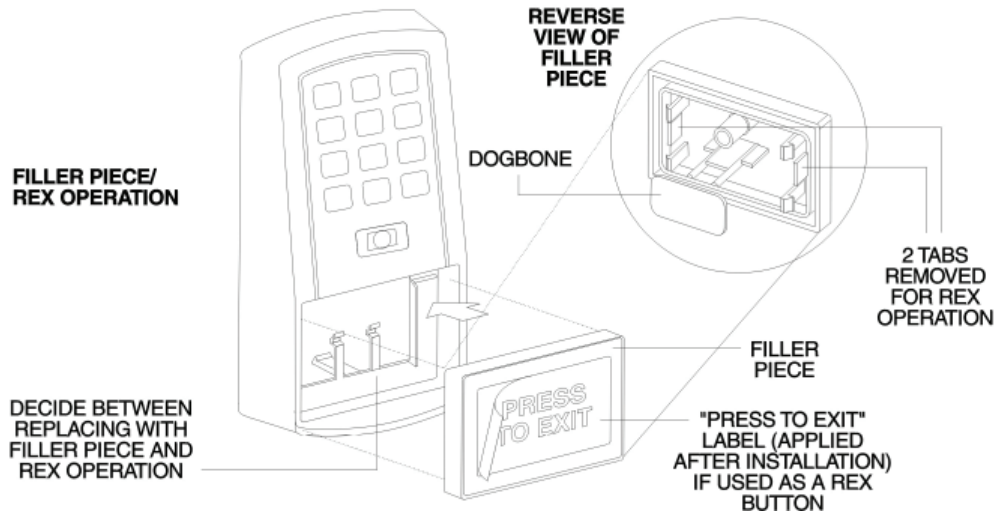

Figure 4: Performing a Secure Installation
- When handling the main printed circuit board, to guard against possible static discharges, touch a grounded object before touching the prox.pad unit. Remove the main printed circuit board by pressing the two spring tabs in the direction of the arrows as shown in Figure 4 on the next page. Be careful with the wires.
- If you elect to use the filler piece as a REX switch, return to the keypad/controller and break off two tabs on the filler piece as illustrated in Figure 4. The filler piece replaces the antenna on the front of the keypad/controller for secure installations.